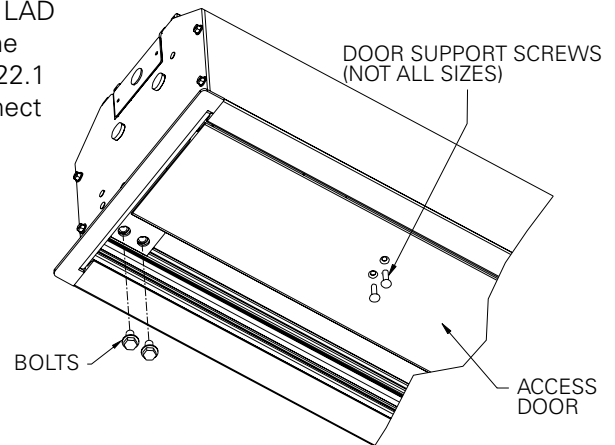

FIGURE 1
1. Remove four bolts from ends of door assembly (2 bolts on each end) (Fig. 1). This will allow the door assembly to drop open for access to case. For larger sizes, you will also need to remove the door support screws.
11. Close door assembly and replace four bolts at ends of door (2 bolts on each end) (Fig. 1).